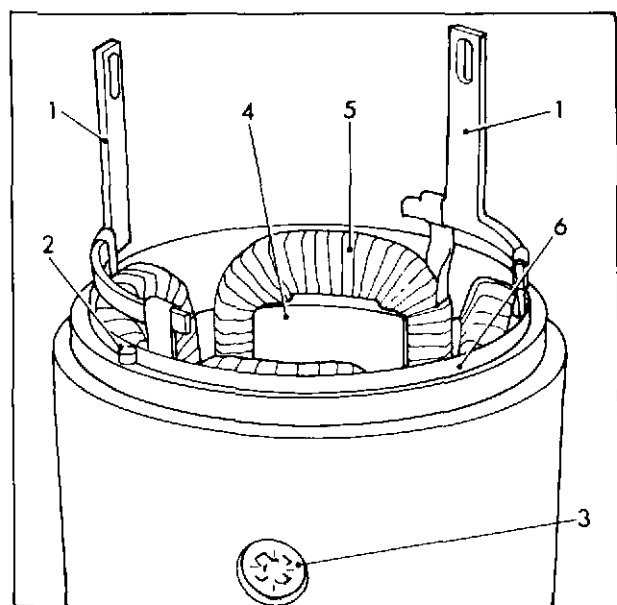

Fig. 15 Dismantling field coils
Field coils (fig. 15)
1. Remove all traces of brush dust with dry compressed air. Inspect the coil insulation and insulating strip for signs of damage. Test the insulation with a 100 volt 'Megger' or similar test instrument. A reading of 1 megohm should be obtained between each field coil connection and the yoke. If it is necessary to remove the field coil assembly, proceed as follows with reference to fig. 15.
2. Note the position of both long field coil connectors (1) in relation to the dowel pin (2) at the drive end of the yoke. Unscrew and remove the eight screws (3) securing the pole shoes (4) to the yoke. The field coils (5) and pole shoes can now be removed together with both leatheroid strips (6). When replacing the field coils into the yoke ensure that the long connectors are in the correct position relative to the dowel pin.